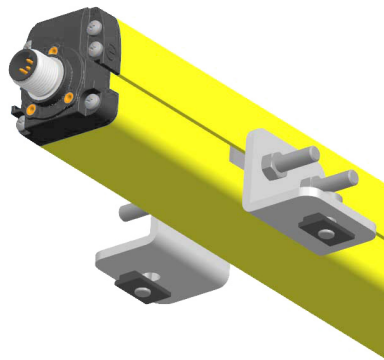

Figure 19: Installation – screwing on
1. The mounting bracket kits (BAM MC-LG-041-B07-3-) are installed on the light curtain as shown in Fig. 19.